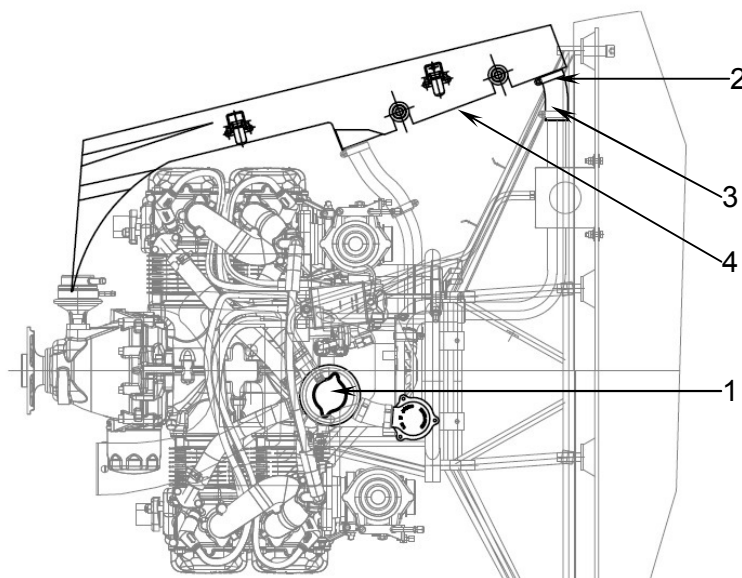

Figure 3
2. Drain the coolant (Figure 3).